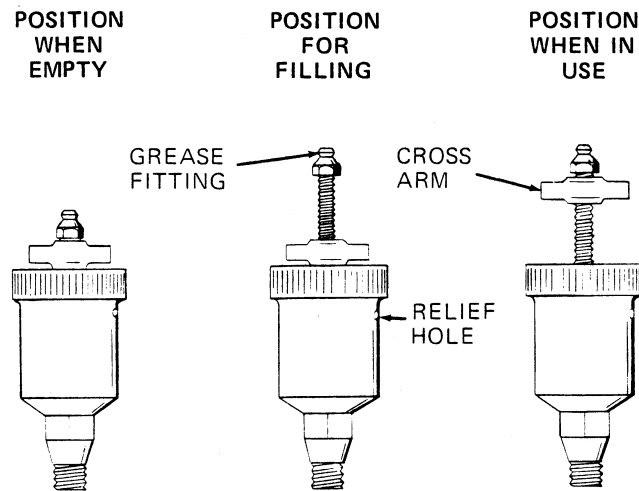

Figure 3. Automatic Lubricating Grease Cup
Before removing the seal assembly, turn the cross arm on the seal grease cup (12) clockwise until it rests against the cover (see figure 3). This will prevent the grease in the cup from escaping after the seal is removed.
Before starting the pump, fill the grease cup through the grease fitting with a good grade of No. 2 pressure gun grease until grease escapes from the relief hole. Turn the grease cup arm counterclockwise until it is at the top of the stem; this will release the spring to apply grease to the seal (see figure 3).